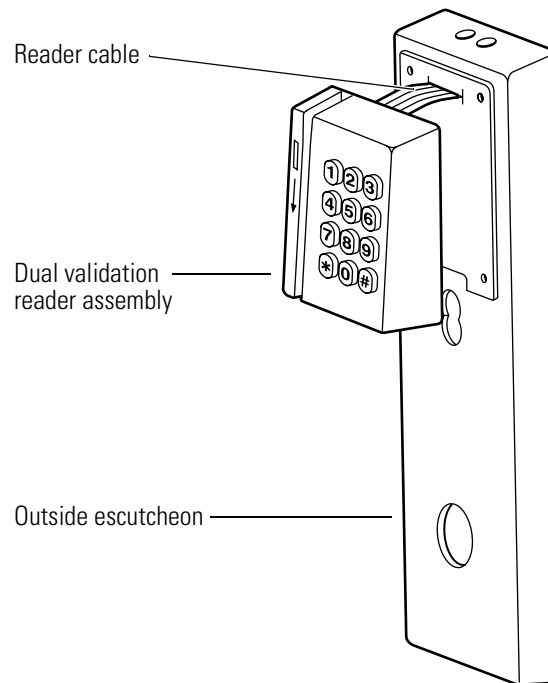

Figure 9.21 Removing the dual validation reader assembly from the outside escutcheon
3. Remove the dual validation reader assembly from the outside escutcheon, sliding the reader cable through the slot in the escutcheon. See Figure 9.21.